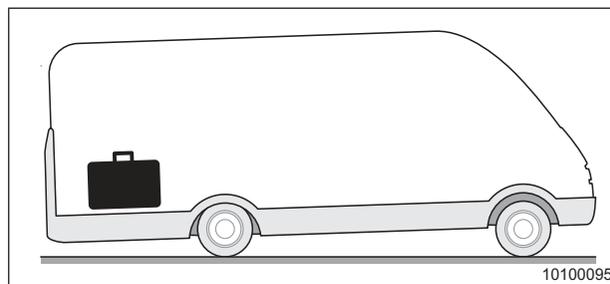

Fig. 1 Vehicle loaded incorrectly
- Do not stow heavy objects as shown (Fig. 1).